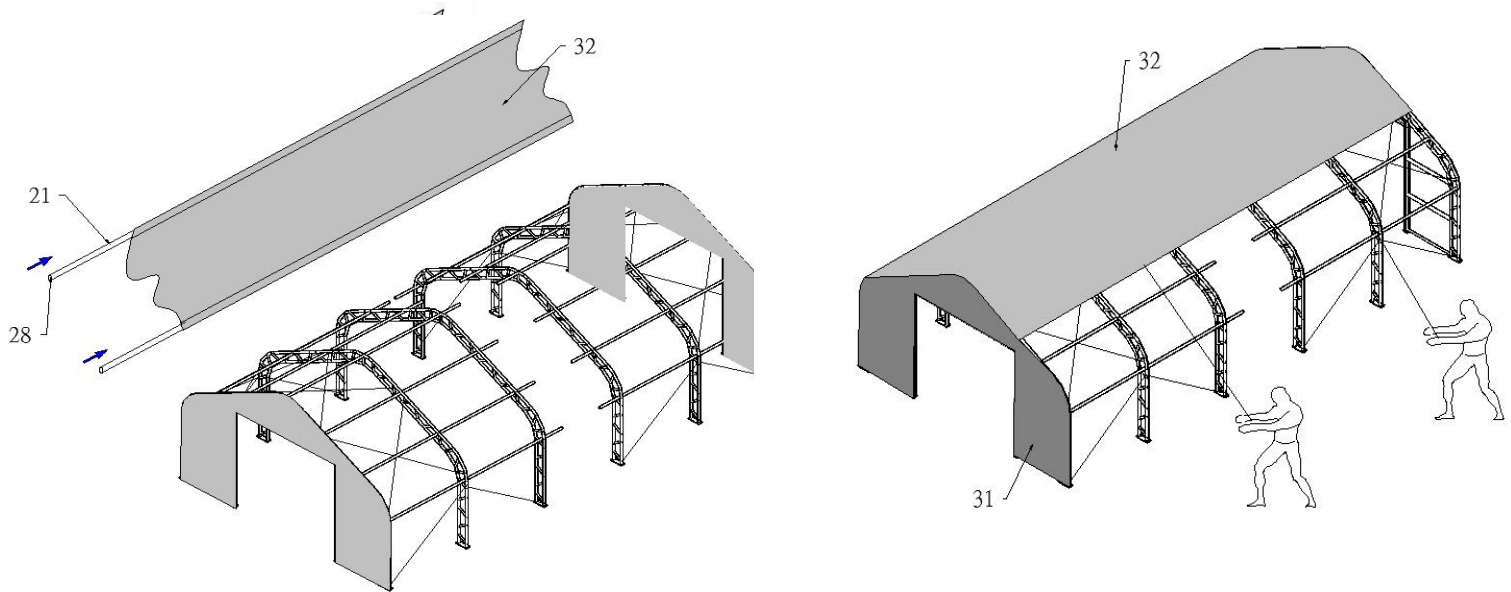

Figure 8
1. When Roof cover is over top of Frame assembly (see Figure 8), insert Tensioning tubes (No.21) into pockets along both sides of Roof cover, cut opening for Nylon band for ratchet, find the Nylon band over tube feed end into tie down to ratchet (No.6).